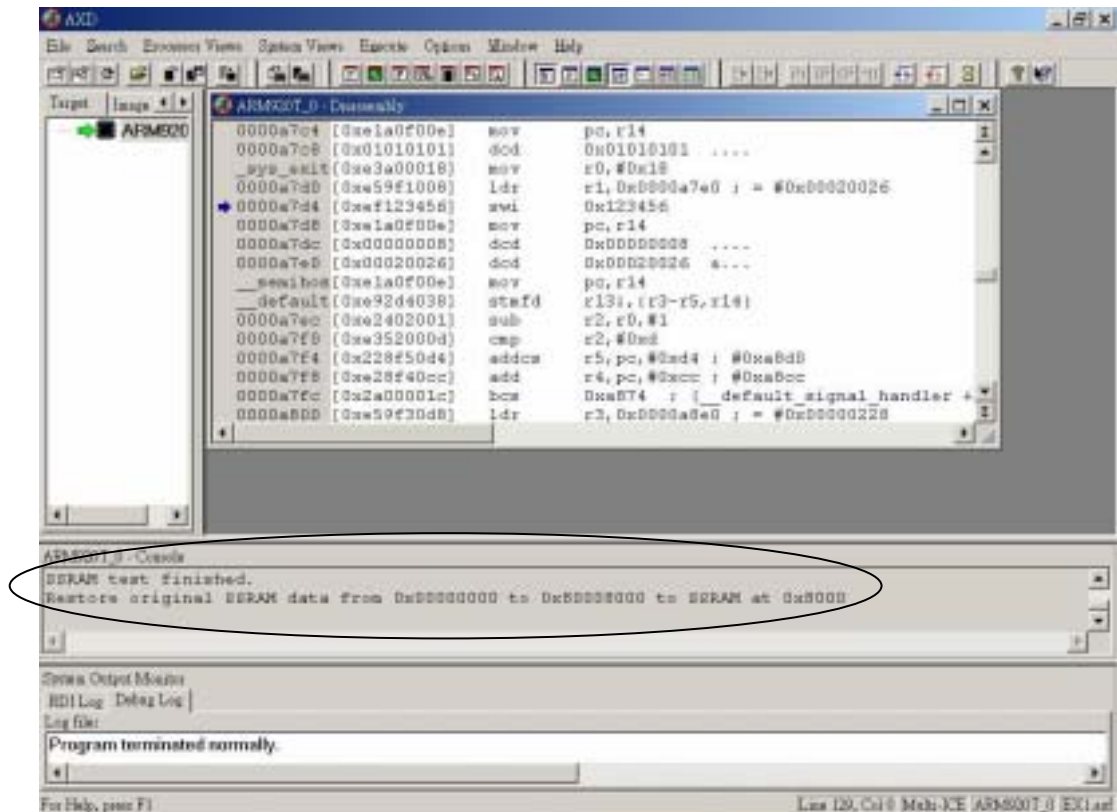

Figure 7 Starts memory test
- (2) Press any key and AXD debugger starts memory test. It shows SSRAM finished when AXD is done (Figure 7).